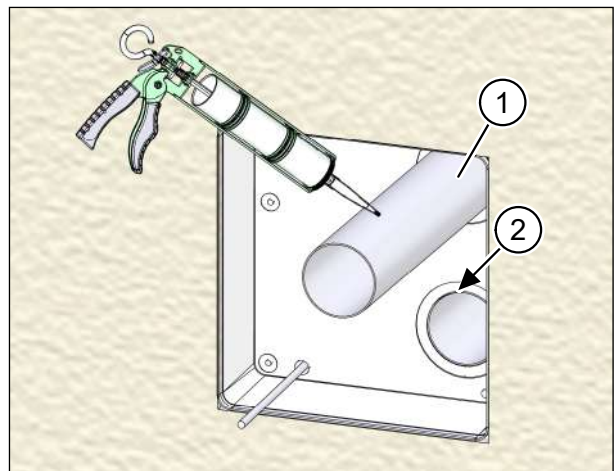

Fig. 29: Inserting and fixing the ventilation pipes
- ▶ Apply permanently elastic sealant to the outer skin of the ventilation pipes (item 1 in Fig. 29).
- ▶ Using a twisting motion, push the two ventilation pipes into the openings in the installation kit until they end flush with the inside of the installation kit (item 2 in Fig. 29).